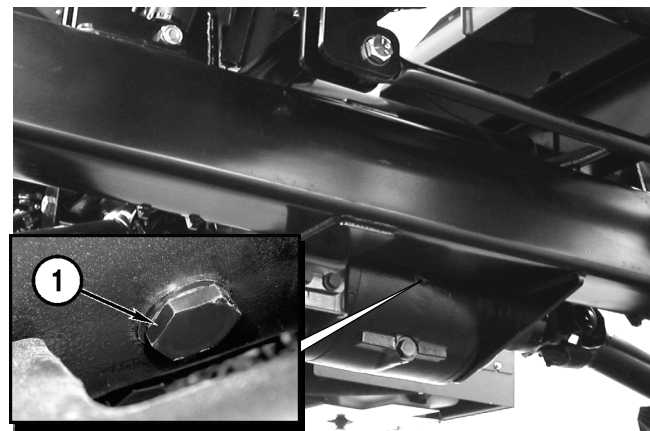

Figure 5-27
1. Remove the differential fill/level plug (**Figure 5-27, 1**) and check the fluid level. The fluid should be level with the bottom of the fill/level hole.